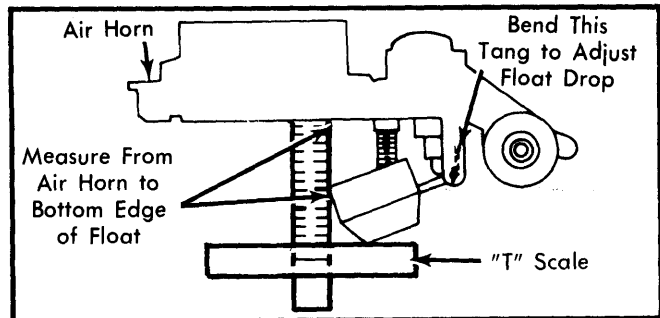

Fig. 3 Adjusting Float Drop
1) With air horn and gasket removed, turn air horn right side up. Allow float to hang. Using "T" scale, measure specified float drop from air horn gasket surface to bottom edge of float. See Fig. 3.